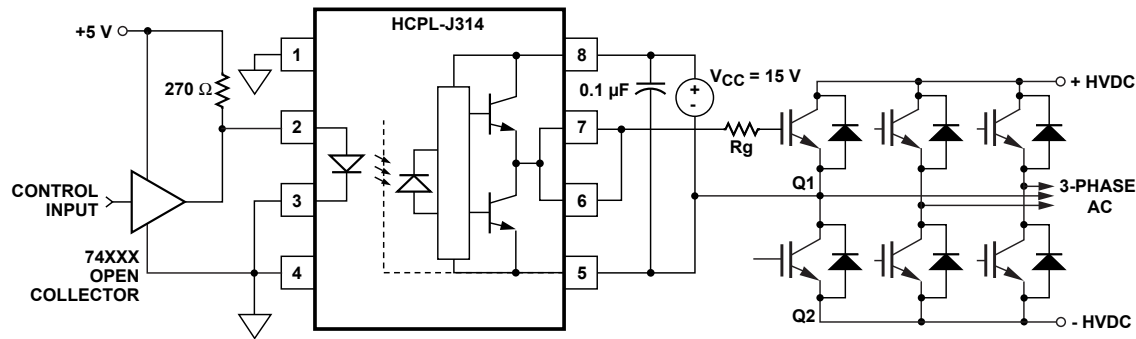
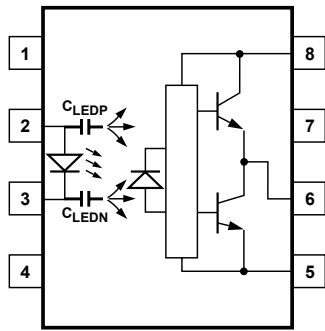
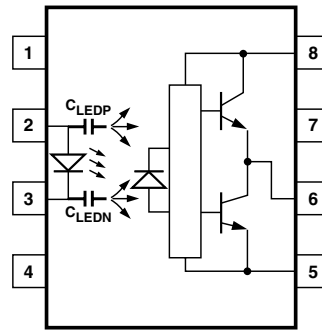
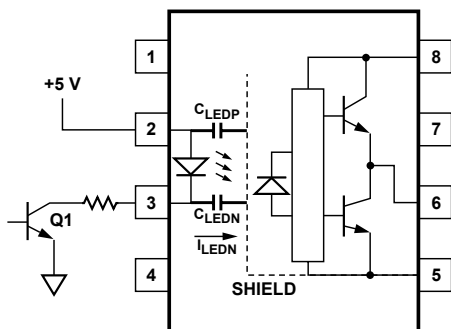

Figure 19. Recommended LED drive and application circuit for HCPL-J314.
Figure 21. Optocoupler input to output capacitance model for unshielded optocouplers.
Figure 22. Optocoupler input to output capacitance model for shielded optocouplers.
Figure 24. Not recommended open collector drive circuit.
To keep the IGBT firmly off, the HCPL-J314 has a very low maximum V_{OL} specification of 1.0 V. Minimizing R_g and the lead inductance from the HCPL-J314 to the IGBT gate and emitter (possibly by mounting the HCPL-J314 on a small PC board directly above the IGBT) can eliminate the need for negative IGBT gate drive in many applications as shown in Figure 19. Care should be taken with such a PC board design to avoid routing the IGBT collector or
Step 1: Calculate R_g minimum from the I_{OL} peak specification. The IGBT and R_g in Figure 19 can be analyzed as a simple RC circuit with a voltage supplied by the HCPL-J314.
where $K_{ICC} \cdot Q_g \cdot f$ is the increase in I_{CC} due to switching and K_{ICC} is a constant of 0.001 mA/(nC·kHz). For the circuit in Figure 19 with I_F (worst case) = 10 mA, R_g = 32 Ω, Max Duty Cycle = 80%, Q_g = 100 nC, f = 20 kHz and T_{AMAX} = 85°C:
Without a detector shield, the dominant cause of optocoupler CMR failure is capacitive coupling from the input side of the optocoupler, through the package, to the detector IC as shown in Figure 21. The HCPL-J314 improves CMR performance by using a detector IC with an optically transparent Faraday shield, which diverts the capacitively coupled current away from the sensitive IC circuitry. However, this shield does not eliminate the capacitive coupling between the LED and optocoupler pins 5-8 as shown in Figure 22. This capacitive coupling causes perturbations in the LED current during common mode transients and becomes the major source of CMR failures for a shielded optocoupler. The main design objective of a high CMR LED drive circuit becomes keeping the LED in the proper state (on or off) during common mode transients. For example, the recommended application circuit (Figure 19), can achieve 10 kV/μs CMR while minimizing component complexity.
The open collector drive circuit, shown in Figure 24, can not keep the LED off during a $+dV_{CM}/dt$ transient, since all the current flowing through C_{LEDN} must be supplied by the LED, and it is not recommended for applications requiring ultra high CMR1 performance. The alternative drive circuit which like the recommended application circuit (Figure 19), does achieve ultra high CMR performance by shunting the LED in the off state.